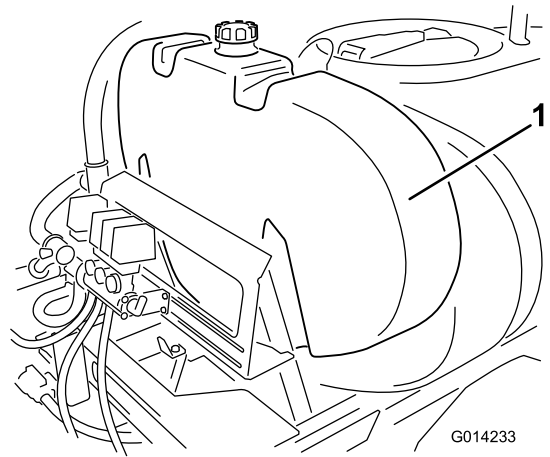

Figure 9
- Install the rinse tank as shown in (Figure 9).